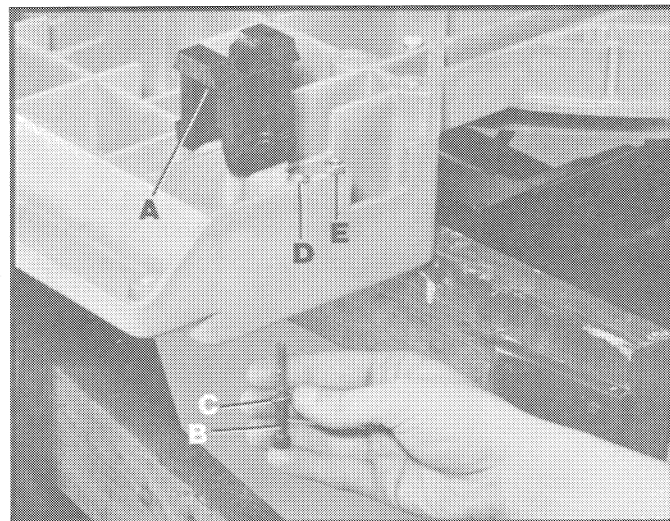

Fig. 3
3. Turn the saw upside down on a supporting surface, such as two sawhorses, and assemble the four outside leg brackets (A) Fig. 3, to the bottom of the saw using the eight 2" long allen screws (B), flat washers (C), lock washers (D) and hex nuts (E), as shown.